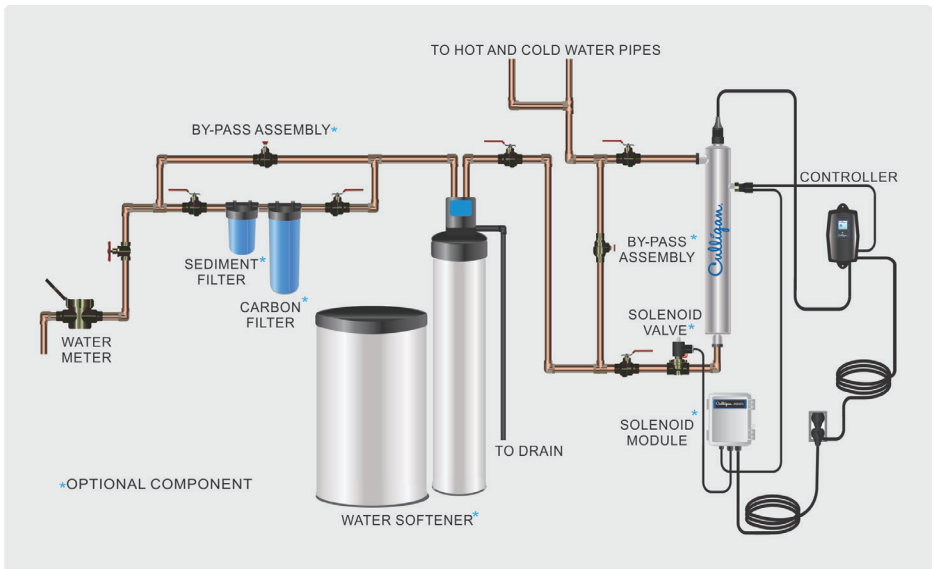

Figure 1. Recommended POE Installation Location
For Point of Entry (POE) systems, choose a location where the main cold water line is accessible. The system must be installed after other water treatment equipment (softener or filters), but before any branches (See Figure 1). For Point of Use (POU) systems, install the unit just before the faucet. CULLIGAN recommends that a 5 micron filter be installed **before** the UV system for a final polishing step before the water is disinfected.
Step 10: Mount the controller to the wall so it is above or beside the reactor to ensure that no moisture can deposit on any of the connections (see Figure 1). Always mount the controller vertically. For monitored systems, insert the sensor connector into the IEP port located on the right side of the controller (Figure 6). For the sensor to be recognized by the controller, the controller power must be plugged in last. **Do not plug the controller power cord in before the last step.**